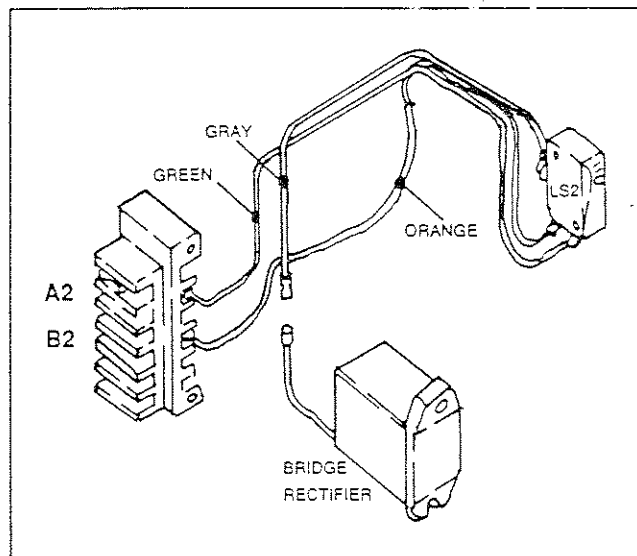

Figure 7. Test Points for Limit Switch LS2
- a. Locate the gray wire (Figure 7) that is routed from limit switch LS2 to the bridge rectifier.